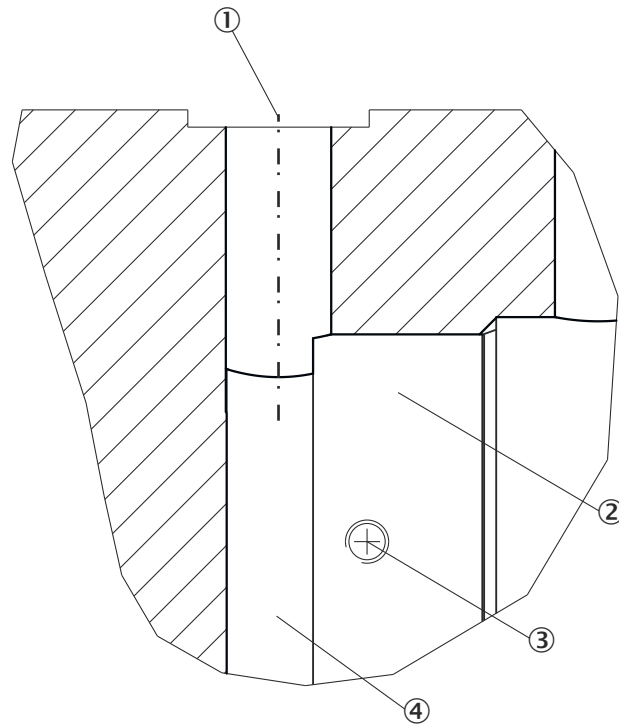

Figure 10: Detailed view of installation cavity for encoder housing
The total bore hole depth comprises the measuring range ①, the damping ②, and an addition distance of 3 mm to the pressure pipe. Bore hole diameter (d) in the piston rod is in accordance with see figure 10 (depending on type).